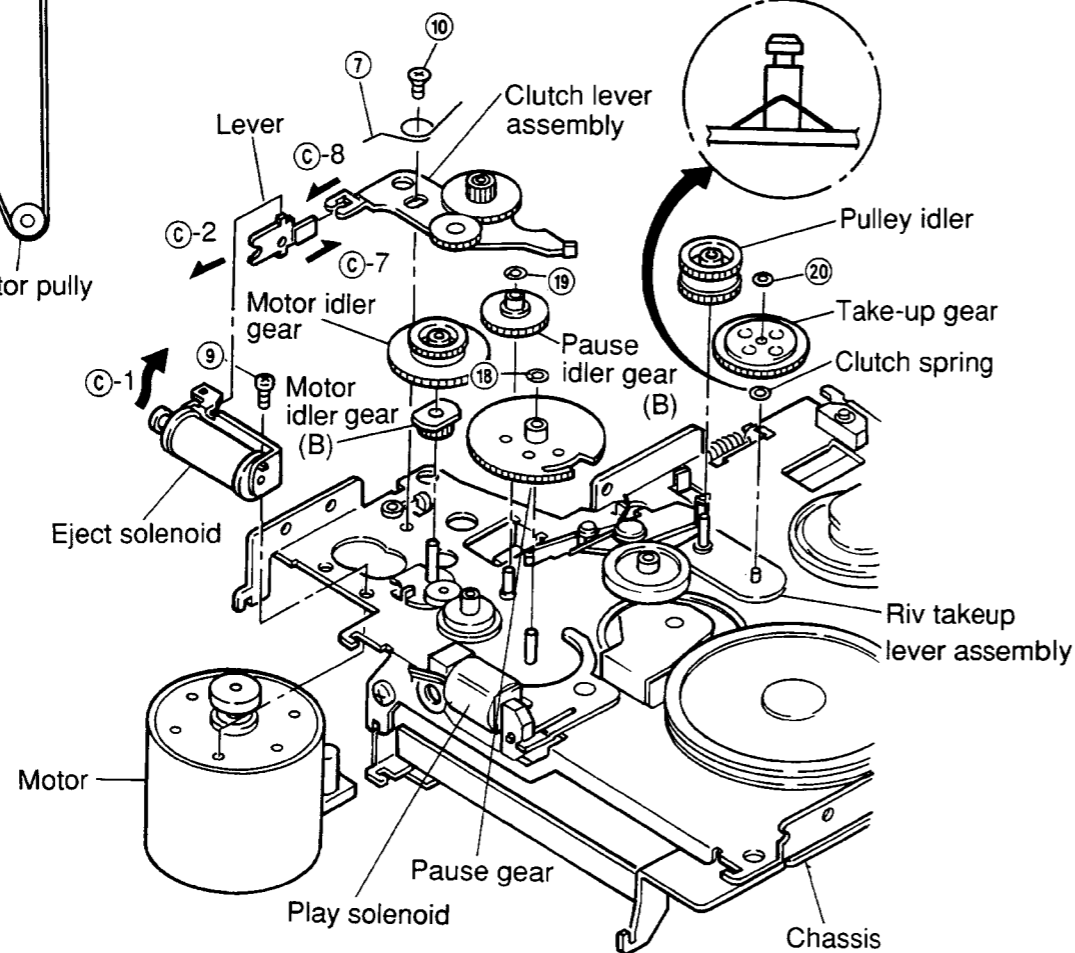
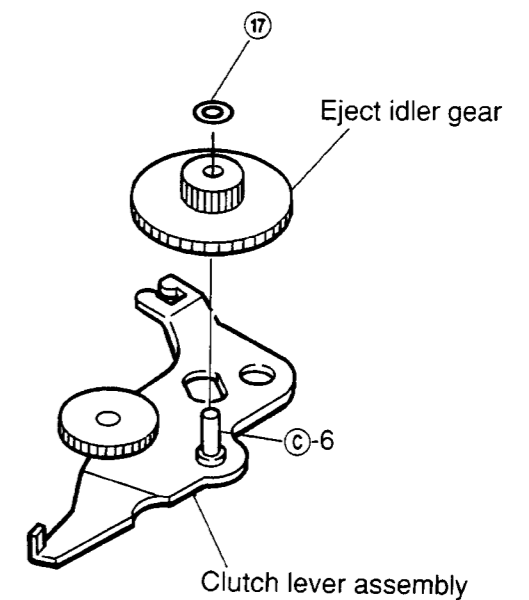

Figure 10
Figure 15
- (1) After removing the belt, remove spring ⑦ as shown in Figure 10.
- (3) Remove two screws ⑨ and ⑩, and remove the motor, taking care not to damage the motor idler gear. (Refer to Figure 10.)
- (4) Mount the new motor following the removal steps in the reverse order.
- (2) Remove screw ⑨ and remove the play solenoid as shown in Figure 10.
- (3) Align position ⑥-1 of the new solenoid with position ⑥-2 of the lever and fasten the screw as shown in Figure 10.
- (4) Lead the wire through the tube and solder it.
- (1) After removing the motor, remove the motor idler gear and the motor idler gear (B) and remove the clutch lever assembly as shown in Figure 10.
- (2) Remove M1.2 lock washer (17) and remove the eject idler gear as shown in Figure 15.
- (3) Mount the new gears and clutch lever following the removal steps in the reverse order.
Note: When mounting the gears to the lever, apply grease (FLOIL 425A) to the position (C-6) as shown in Figure 15. Align the position (C-7) with the position (C-8) and mount the clutch lever as shown in Figures 10 and 15.
- (1) Remove M1.2 lock washer (18) and remove the pause gear pulling it up from the stud of the chassis as shown in Figure 10.
- (2) Mount the new gear following the removal steps in the reverse order.
- (1) After removing the motor and the motor idler gear, remove M1.2 lock washer (19) and remove the gear by pulling it up from the stud of the chassis as shown in Figure 10.
- (2) Mount the new gear by following the removal steps in the reverse order.
- (1) After removing the belt and the pulley idler gear, remove M1.2 lock washer (20) by pulling it up from the stud of the riv take-up lever assembly as shown in Figure 10.
- (2) Remount the take-up gear following the removal steps in the reverse order.